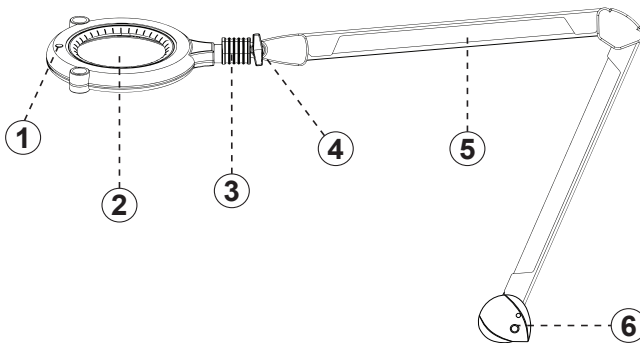

Figure 1 Structure of the LED-Lupenleuchte
4. Connect the supplied power supply to the power supply socket (6, Figure 1) of the LED magnifying lamp.
Loosen the fixation screw (4, Figure 1), set the desired angle and tighten the locking screw again.